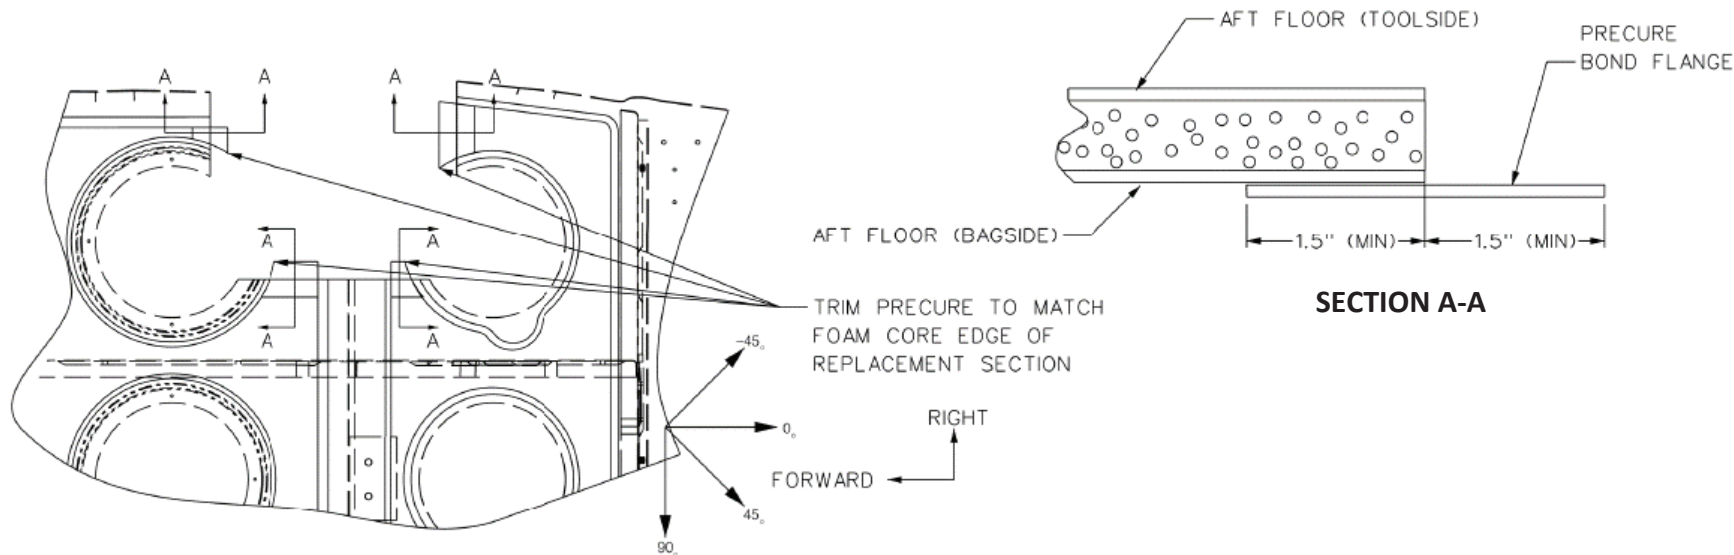

FIGURE 2
1. FABRICATE BOND FLANGES FOR AFT FLOOR REPAIR SECTION. REFER TO FIGURE 2.
- A. USE 52005-003 TO FABRICATE FLANGES. ORIENT PRECURE 0° W.R.T ROSETTE IN FIGURE 2.